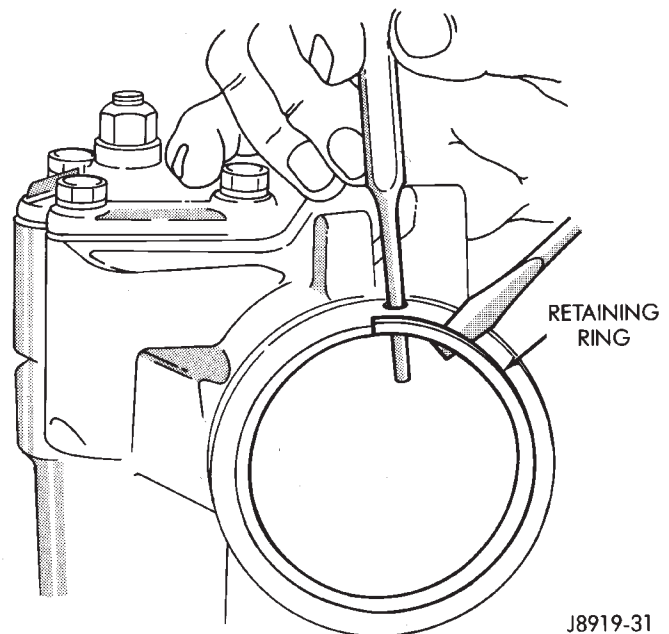

Fig. 15 End Plug Retaining Ring
- (1) Rotate retaining ring until one end is under the hole in the housing. Unseat and force ring from groove (Fig. 15).